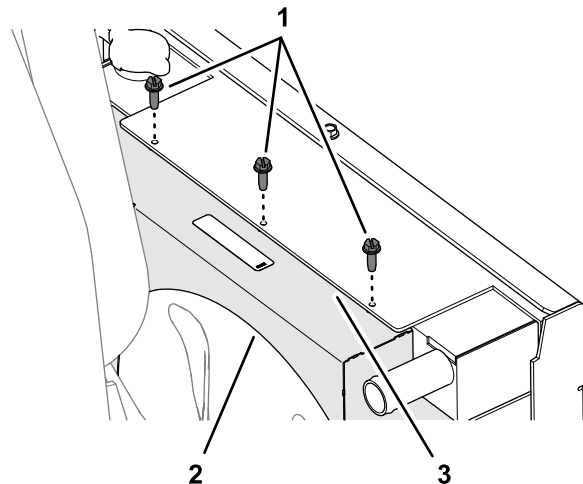

Figure 36
7. Secure the top fan shroud to the radiator/oil cooler (Figure 36) with 3 self-tapping screws (1/4 x 3/4 inch).